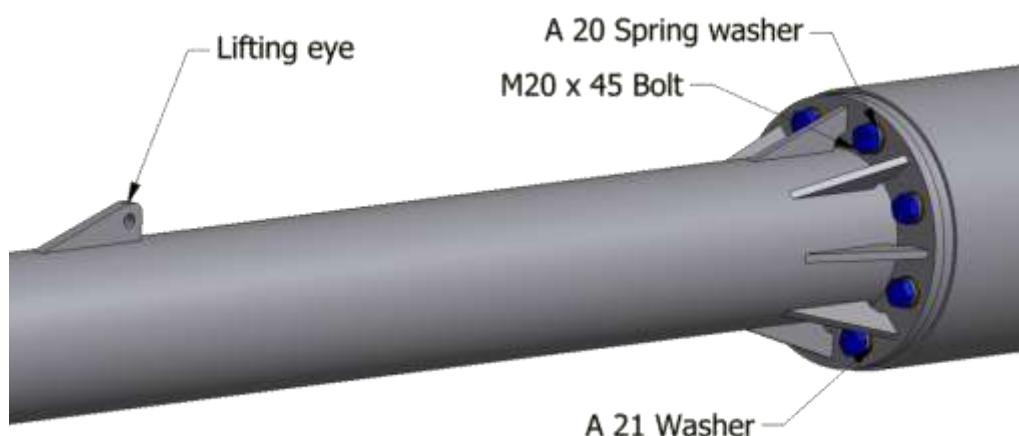

Figure 6 – Placing the 2nd segment
1. Place the tower 2nd segment bottom against the 1st segment top (see Figure 6). The 2nd segment weighs about 145 kg, therefore a lifting aid in form of a tractor, fork lifter or a crane is necessary to perform the operation. Use synthetic lifting slings to make contact with the tower 2st segment in order not to damage the zinc layer. ! **IMPORTANT:** Make sure you DO NOT place any body part underneath the lifted object while it is being lifted. Make sure that the segment lifting eye is facing upward direction.